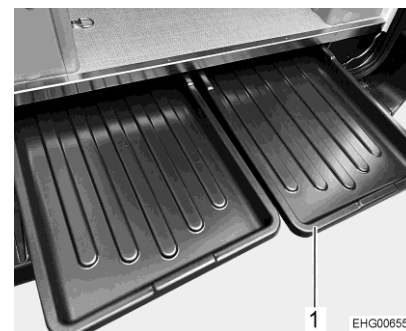

Fig. 35 Double floor pull-outs (special equipment)
- Pull out one of the pull-outs (Fig. 35,1) in the rear area of the vehicle.